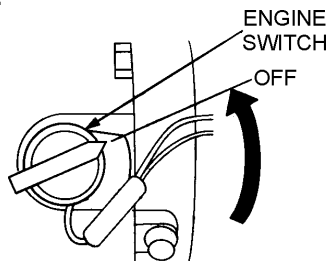

Figure 18. Engine ON/OFF Switch (OFF)
- Turn the engine ON/OFF switch to the "OFF" position (Figure 18).